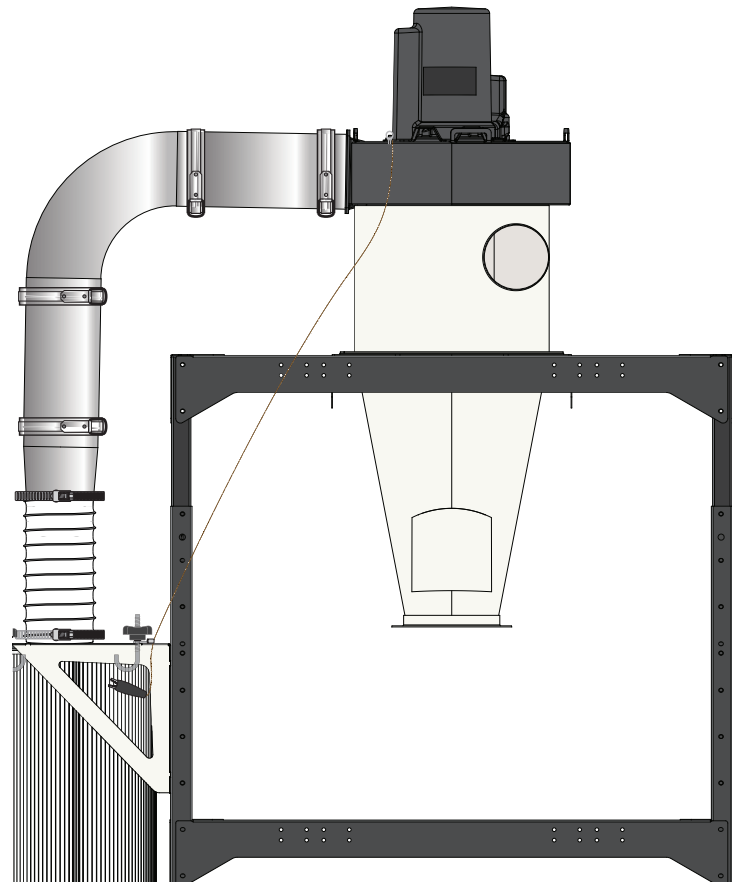

FIG. 14
To ground the filter, attach the ring terminal on the braided ground wire from the Motor Assembly (A) to a J-bolt (M4) on the Dual Filter Plate (L) under the Thumb Nut (M2), then attach the alligator clip to the filter's cage [FIG. 14].